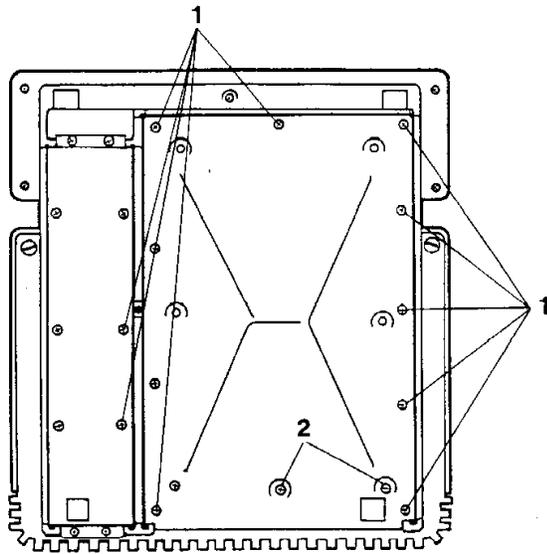

FIGURE 7
8. Completely loosen (but don't remove) the ten Phillips screws around the edge of the logic access panel. (See Figure 7, Item 1).